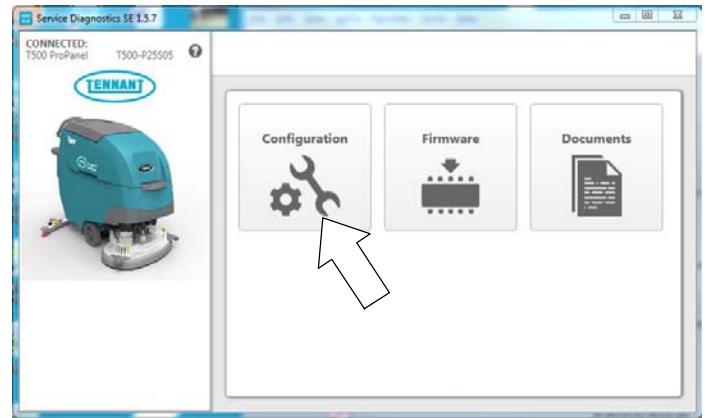

Fig. 40
3. From the Home screen, select the “Configuration” button (Figure 40).
2. If firmware updates are required, the "Firmware" button on the home screen will be highlighted in yellow as shown (Figure 40). Press the button to update the machine's firmware.